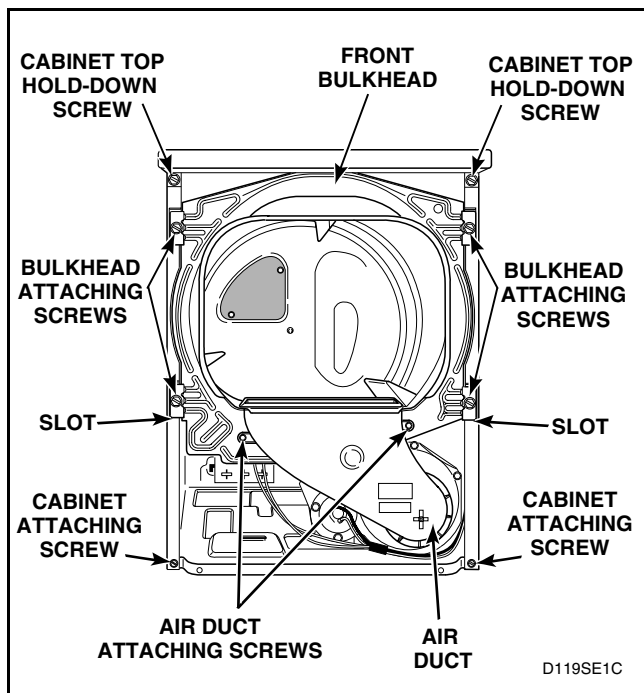

Figure 51
- f. Remove four screws holding bulkhead to front flange of cabinet. Refer to *Figure 51*. Lift complete bulkhead assembly out of slots in cabinet.
- f. Remove four screws holding bulkhead to front flange of cabinet and lift complete bulkhead assembly out of slots in cabinet. Refer to *Figure 51*.
- Remove four screws holding bulkhead to front flange of cabinet and lift complete bulkhead assembly out of slots in cabinet. Refer to *Figure 51*.
- Loosen two cabinet top hold-down screws. Refer to *Figure 51*.
- e. Remove two cabinet top hold-down screws. Refer to *Figure 51*.
- k. Remove four screws holding bulkhead to front flange of cabinet and lift complete bulkhead assembly out of slots in cabinet. Refer to *Figure 51*.